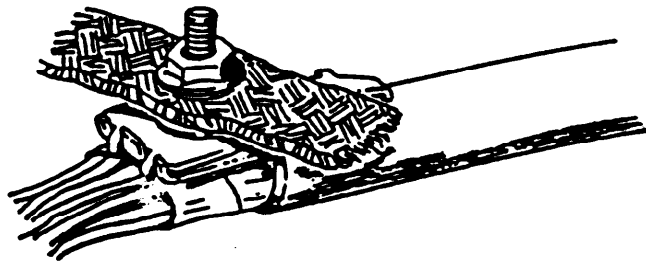

Figure 1 - Complete Graphic Description
1.03 The SCOTCHLOK* 4460-D Shield Connector is designed to make a stable and low resistance electrical connection between communication cables of .80" diameter or less (100 pair, 24 gauge and under) and a conductor such as a strap, wire or braid. See Figure 1 for complete installation.